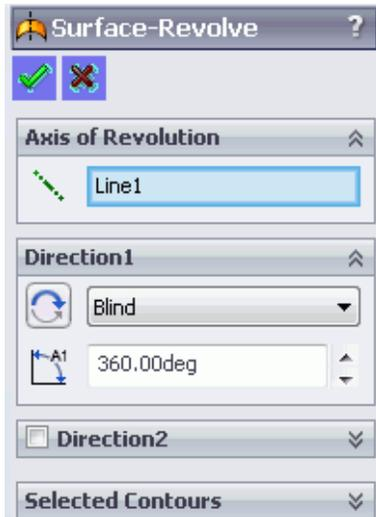

Figure 31 Reference line for the Axis of Revolution
- 3 Confirm that **Line[*]** on the Surface-Revolve PropertyManager is set for **Axis of Revolution**. If necessary, click the line in the graphics area. See Figure 31.